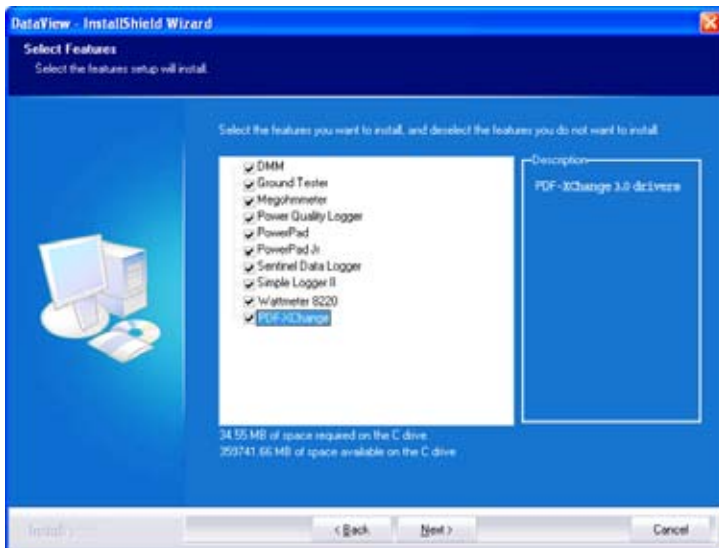
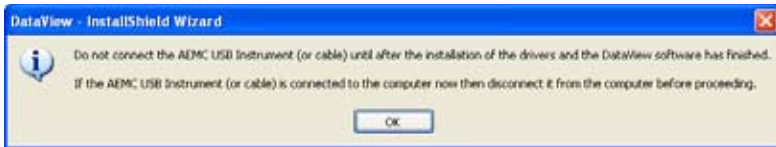

Figure 5-2
Figure 5-3
9. If the instrument selected for installation (see Figure 5-2) requires the use of a USB port, a warning box will appear, similar to Figure 5-3. Click **OK**.